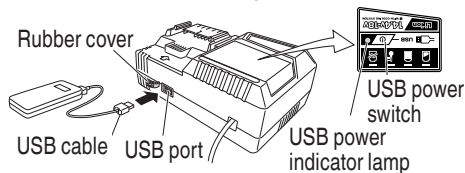

Fig. 11
- (2) Turn the USB power switch ON (Fig. 11)
- (3) Connect the USB cable. (Fig. 11)
- (4) When charging is completed
- Turn the USB power switch OFF and unplug the power cord from the electrical outlet. (Fig. 11)